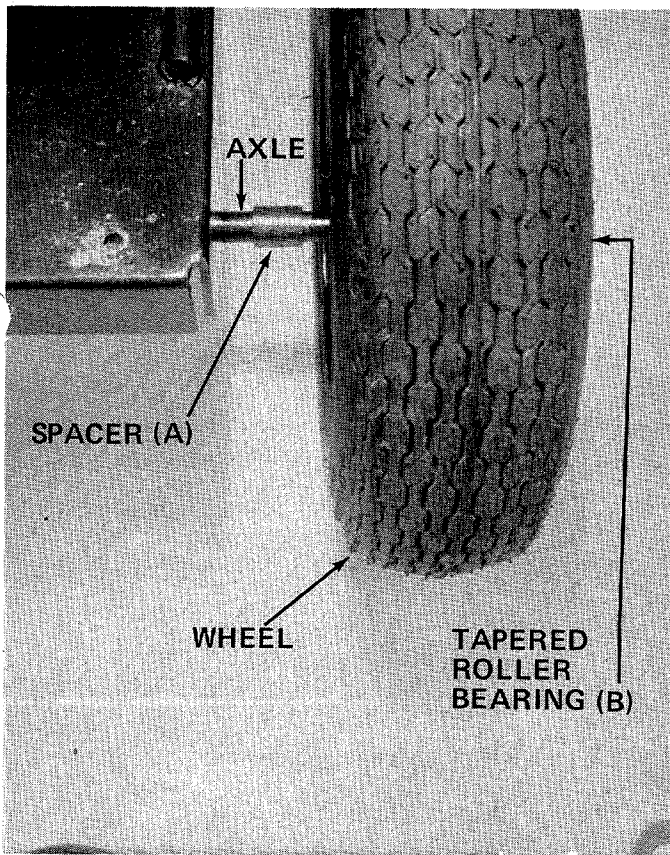

FIGURE 3
2. Place one spacer (A) on axle, next one wheel, and tapered roller bearing (B). See figure 3.